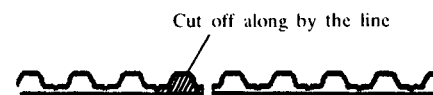

Fig. 88-2
- (1) With referring to the illustrations item 6 on page 8 remove the motor from the rail.
- (2) Remove the driving belt from the shuttle. (Refer to the items 10 and 11)
- (3) Cut off the one rack of the belt with sharp knife. (Refer to Fig. 88-2)
- (4) Mount the belt to the shuttle and assemble motor and the rail. Then adjust the tension of the belt with referring to the instructions item 12-2 and 14-2.